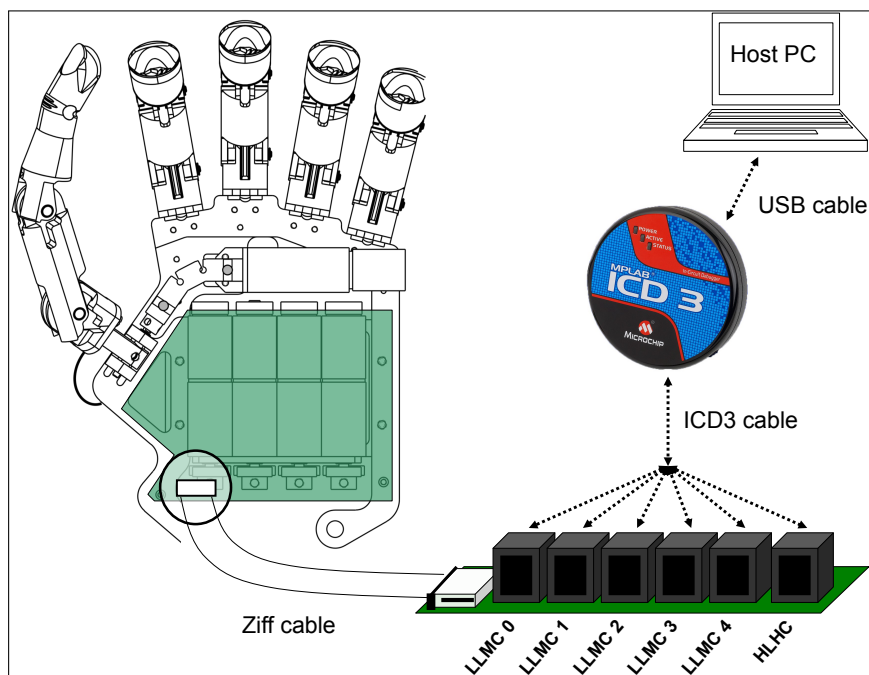
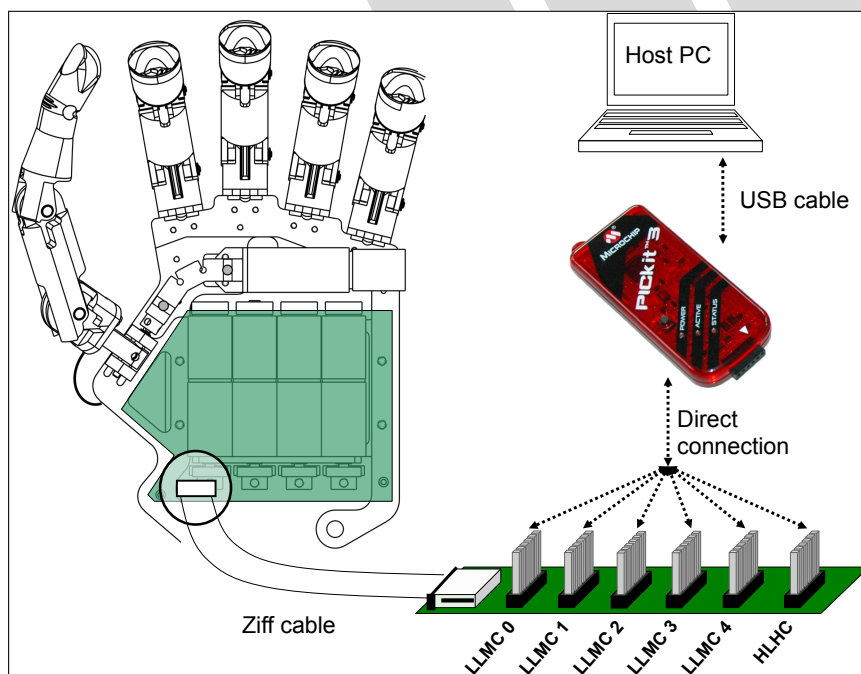

Figure 2: Programming IH2 Azzurra using an ICD3 programmer and a IH2-ICD Adaptor board
Figure 3: Programming IH2 Azzurra using a PICKit3 programmer and a IH2-PICKit Adaptor board
3. connect the ICD3 or the Pickit 3 debugger/programmer to the PC and to your prototype as depicted, respectively, in Fig. 2 and Fig. 3